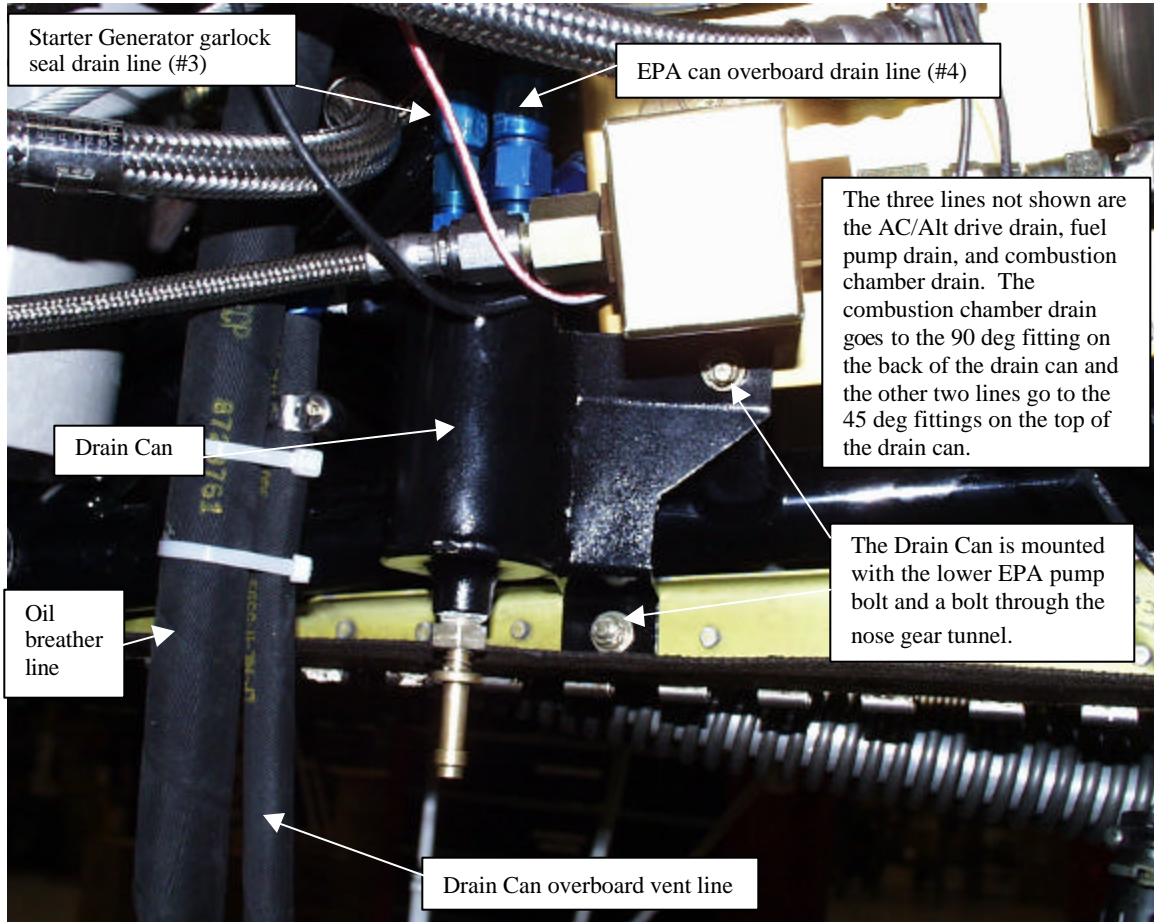

Figure 2-1. Drain Can Installation
1. Figure 2-1 shows the installation of the drain can on the aircraft. The can is mounted to the lower EPA pump mounting bolt and to the nose gear door frame through an existing hole. A 1/4' spacer may be needed on the top mounting point to get adequate clearance for the drain lines going into the top of the can.